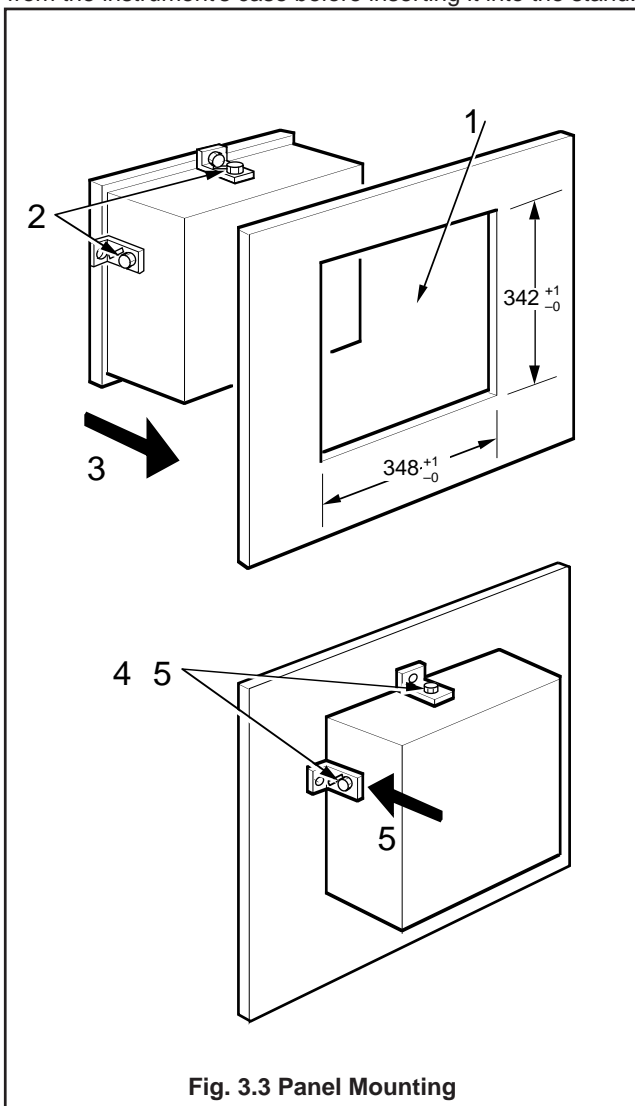

Fig. 3.3 Panel Mounting
3.2.2 Panel Mounting – Fig. 3.3